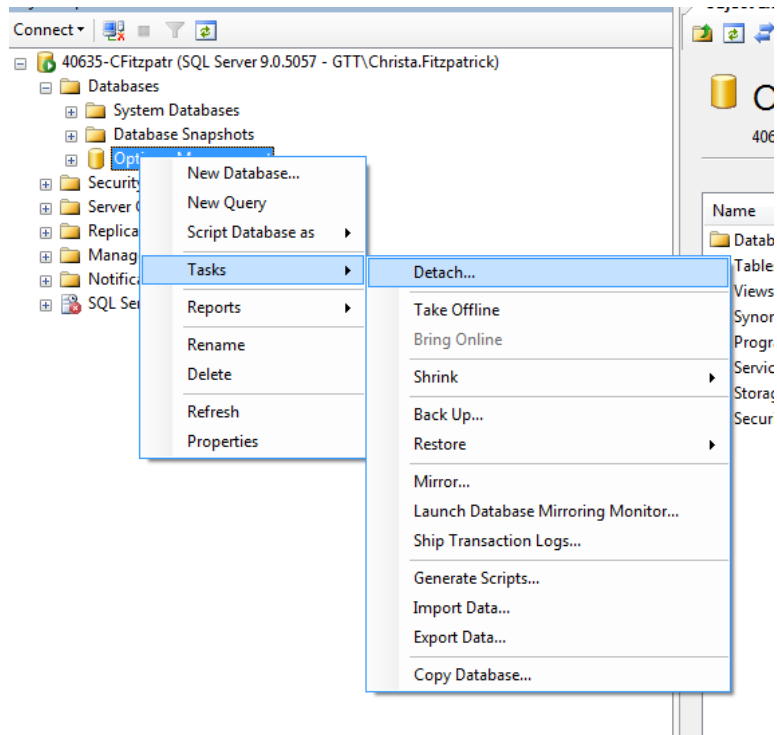

Figure 19-1
- c. Click on Tasks menu item and then select the Detach menu item. See Figures 19-1&19- 2.